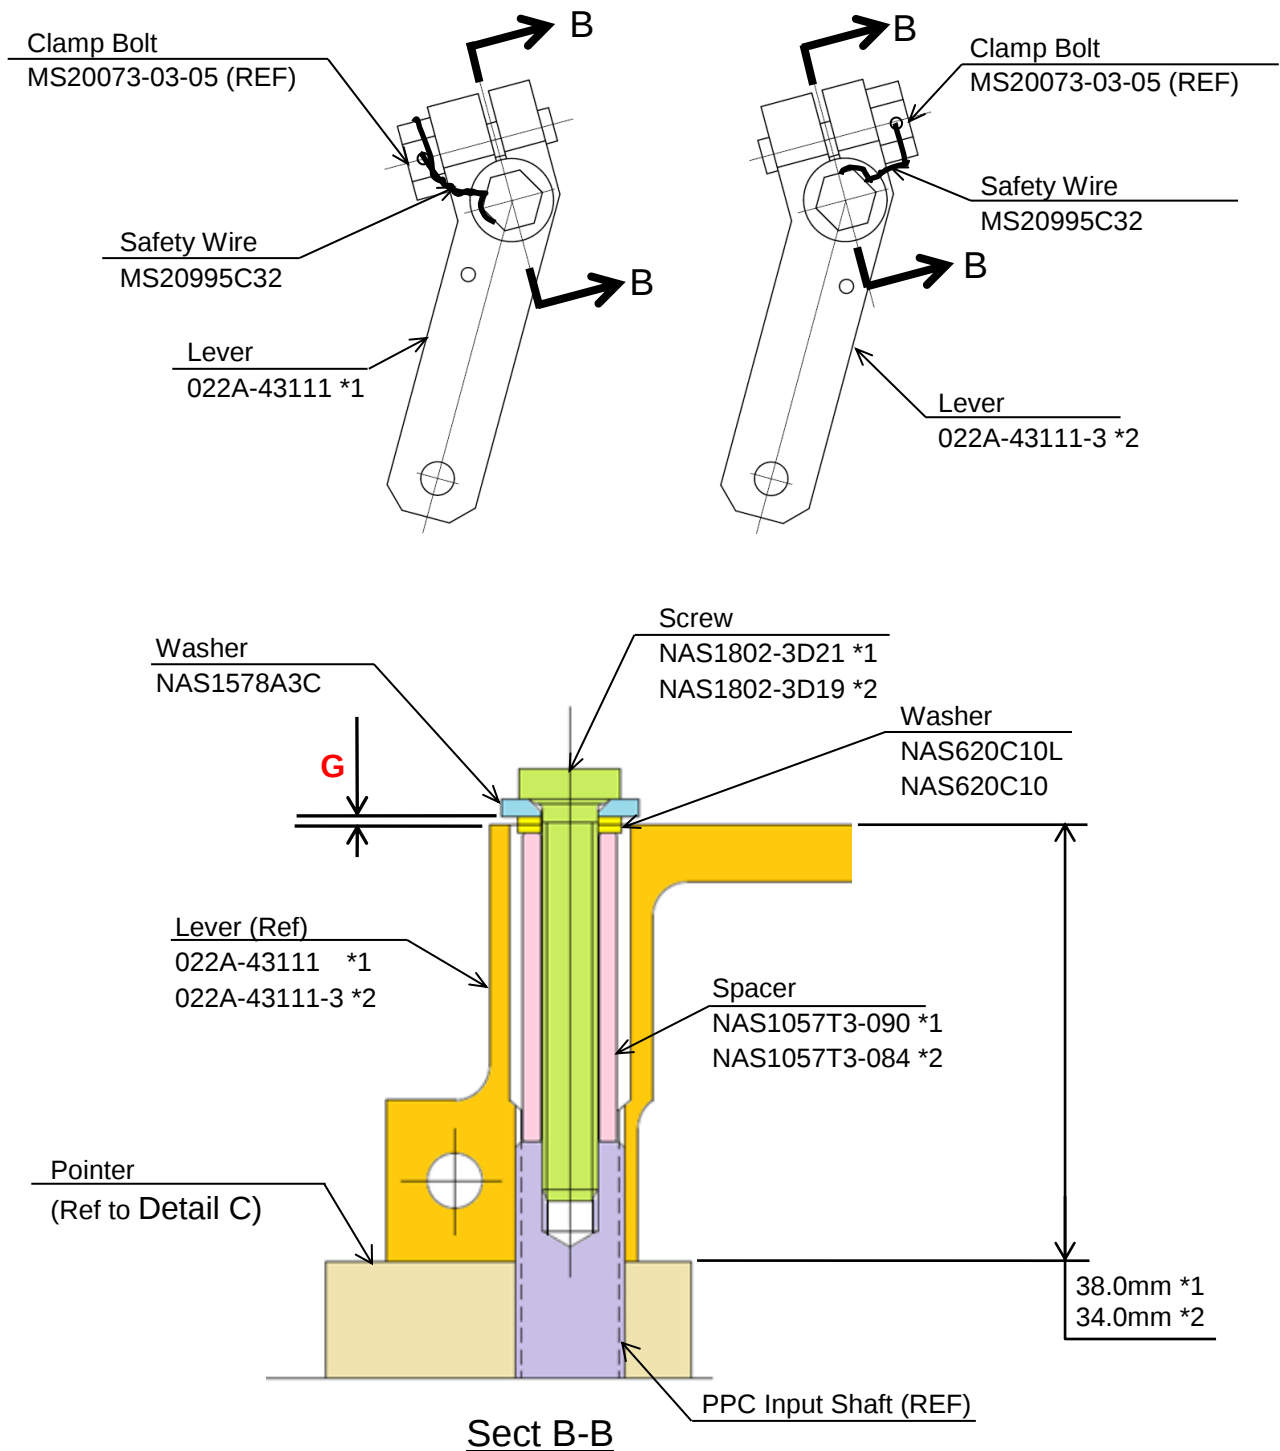

Figure 2 G: Gap between washer (NAS1578A3C) and PPC lever
- (4) Verify that there are at a minimum two (2) full turns of engagement between screw (NAS1802-3D21/NAS1802-3D19) and Propeller Pitch Control Input Shaft threaded hole. Torque the screw NAS1802-3D21/NAS1802-3D19) to 10 to 15 in-lbs. Screw (NAS1802-3D21/NAS1802-3D19) does not bottom out inside the threaded shaft once required torque is achieved. 1/16" longer or shorter screw may be installed instead of screw (NAS1802-3D21/NAS1802-3D19) to obtain required thread engagement.
- (5) Measure the gap "G" (Ref to Figure. 2). If the gap measures $0 < G \leq 2.0$ mm, go to step (7). If out of range, go to step (6).
- (6) Add or remove washers (NAS620C10 and/or NAS620C10L) and repeat steps (3) to (5) until the gap "G" measures $0 < G \leq 2.0$ mm. 1/16" longer or shorter screw may be installed instead of the screw (NAS1802-3D21/NAS1802-3D19) for gap adjustment.
- (7) Install the safety wire (MS20995C32) between screw (NAS1802-3D21/NAS1802-3D19) and clamp bolt (MS20073-03-05).
- (8) Pull the PPC lever upward by hand and ensure that PPC lever is tightly secured.
- (9) Make sure smooth movement of the PPC lever.